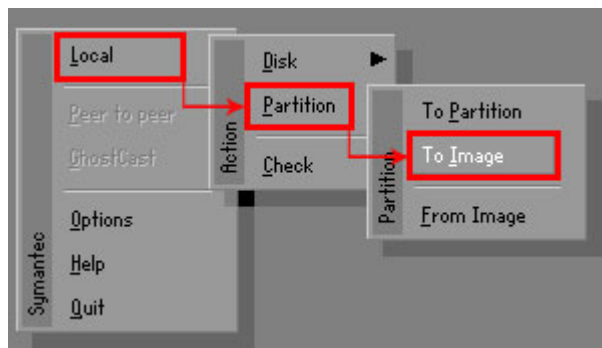

Figure A-13: Symantec Ghost Path
Step 4: Use mouse to navigate to the option shown below (Figure A-13).